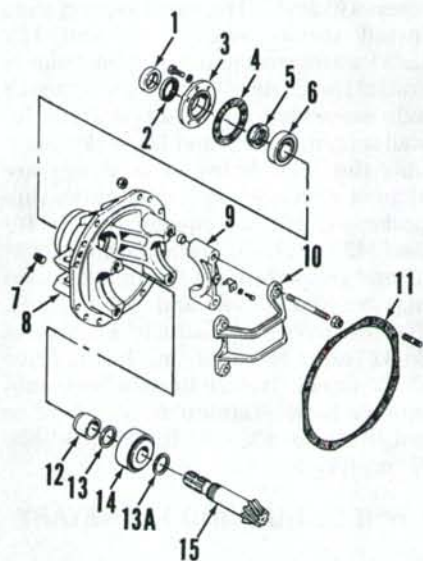
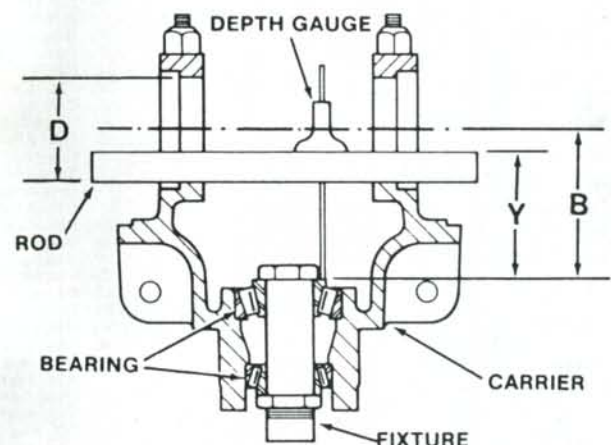

Fig. 12—View of bevel drive pinion and component parts removed from carrier (8).
Fig. 14—Diagram showing method of securing pinion bearings in carrier to allow depth gage measurement to be taken. Refer to text.
Place assembly on a bench and remove yoke from pinion shaft. Place match marks on carrier (8—Fig. 12) and bearing support caps (9). Remove both adjusting ring locks. Remove retaining nuts and lift off support bracket (10), bearing support caps (9) and adjusting rings (1 and 17—Fig. 13). Remove differential and ring gear assembly and set aside for later disassembly.
Unbolt and remove seal retainer (3—Fig. 12) with seals (1 and 2) and gasket (4). Remove locknut (5), pull bevel pinion shaft out and catch bearing cone (6). Remove spacer (12), first shim (13), bearing cone (14) and second shim (13A) from bevel pinion shaft (15). Use a slide hammer puller and remove bearing cups (6 and 14).
dimension (D—Fig. 14). Install pinion bearing cones and using a fixture as shown in Fig. 14 or a bolt and washers, tighten nut to hold bearings tight in position. Place a 25 mm diameter rod having a cross hole drilled through it across bearing bore as shown in Fig. 14. Using a depth gage, measure from top of rod to face of inner bearing cone and record measurement. This is dimension (Y—Fig. 14). Subtract 25 mm (diameter of rod) from measurement of depth gage (Y). Add this to one-half the diameter of carrier bearing bore (D). This will be dimension (B). Then, subtract dimension etched on pinion shaft gear end from (B) if it is a minus (-) dimension or add if it is a plus (+) dimension (this dimension is in millimeters), for result. This dimension will be correct shim thickness to install between bearing cone (14—Fig. 12) and pinion shaft gear (15) for correct pinion shaft protrusion. Remove bearing cones from carrier.
When reassembling, install disc carrier rings, aligning the set screw holes. Install set screws and tighten to a torque of 15 ft.-lbs. (20 N·m). Apply one or two drops of Loctite 290 in set screw holes after set screws are tightened. Measure thickness of each friction disc and renew any measuring less than 0.070 inch (1.77 mm). Measure total thickness of friction discs (9 and 10) for each side. Add correct spacer (11) to give a total thickness of 0.602-0.614 inch (15.3-15.6 mm) for each side. Apply a coating of grease to spacers and friction discs to hold them together on side gears during assembly. Install side gear with spacer and friction discs in each differential case half. Install cross pins with differential pinions and thrust washers on one case half, then install second case half, aligning match marks. If necessary, heat ring gear to a maximum of 400°-450° F (204°-232° C) and install over dowel pins. Install lockplates and cap screws and tighten cap screws to a torque of 88 ft.-lbs. (119 N·m). Bend lockplates up against cap screw heads. Heat carrier bearing cones (2) to 250° F (120° C) and install on differential case. Install bearing cups on cones and place differential in position in carrier. Install bearing support caps (9—Fig. 12) aligning match marks on carrier and caps. Install support bracket (10), install retaining nuts and tighten nuts lightly. Make certain there is some clearance between ring gear and pinion. Install bearing adjusting rings (1 and 17—Fig. 13) and turn them in against carrier bearings. Tighten retaining nuts on support bracket to 442 ft.-lbs. (599 N·m) torque.
Use new gasket (11—Fig. 12) and install assembly in axle housing. Tighten retaining nuts to a torque of 144 ft.-lbs. (195 N·m).